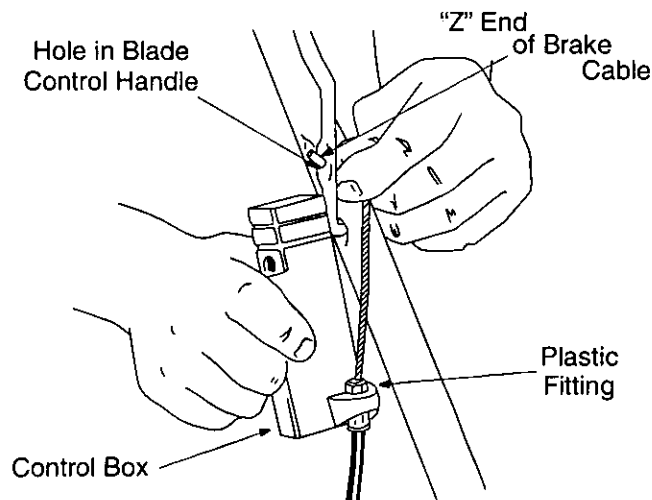
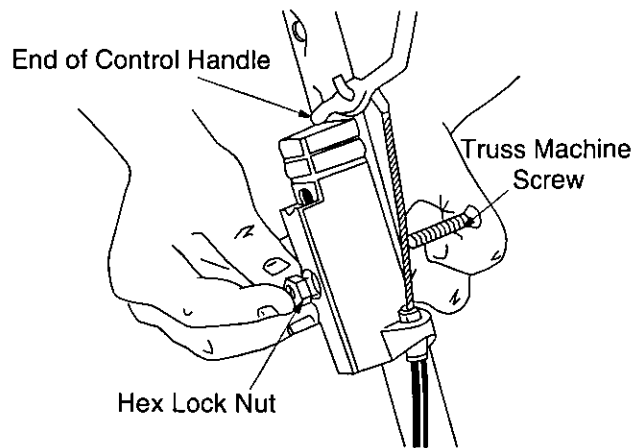

Figure 4
Figure 5
- Holding the control box near the left side of the upper handle (control box must be inside the handle), hook the "Z" end of the brake cable into the control handle from the **outside** to the **inside**. See Figure 4 and Figure 5.
- Place the control box on the upper handle just below (touching) the end of the control handle as shown in Figure 5. Secure with hardware removed in step one by placing hex lock nut into the indent on the inside of the control box. Screw the truss machine screw into the hex lock nut.